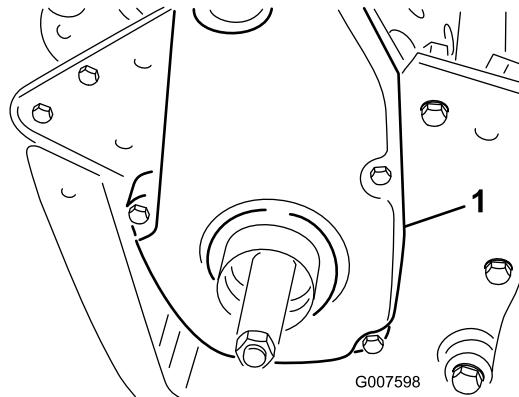

Figure 47
6. Remove the rear belt cover from the right side of the machine (Figure 47).